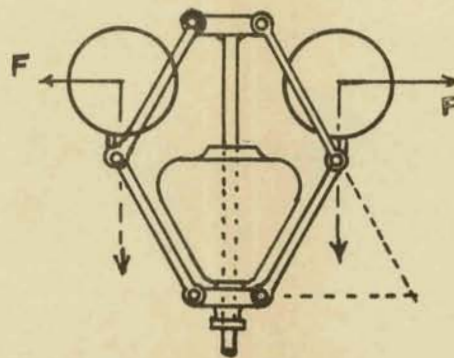

Fig. 4
4. Figure 4 is a scale drawing of a loaded governor. The radius in which the balls run is 7 inches. Find the force  $F$  necessary to maintain the configuration shown and hence determine the speed of the governor. The weight of each ball is 20 lbs. and the load is 80 lbs.